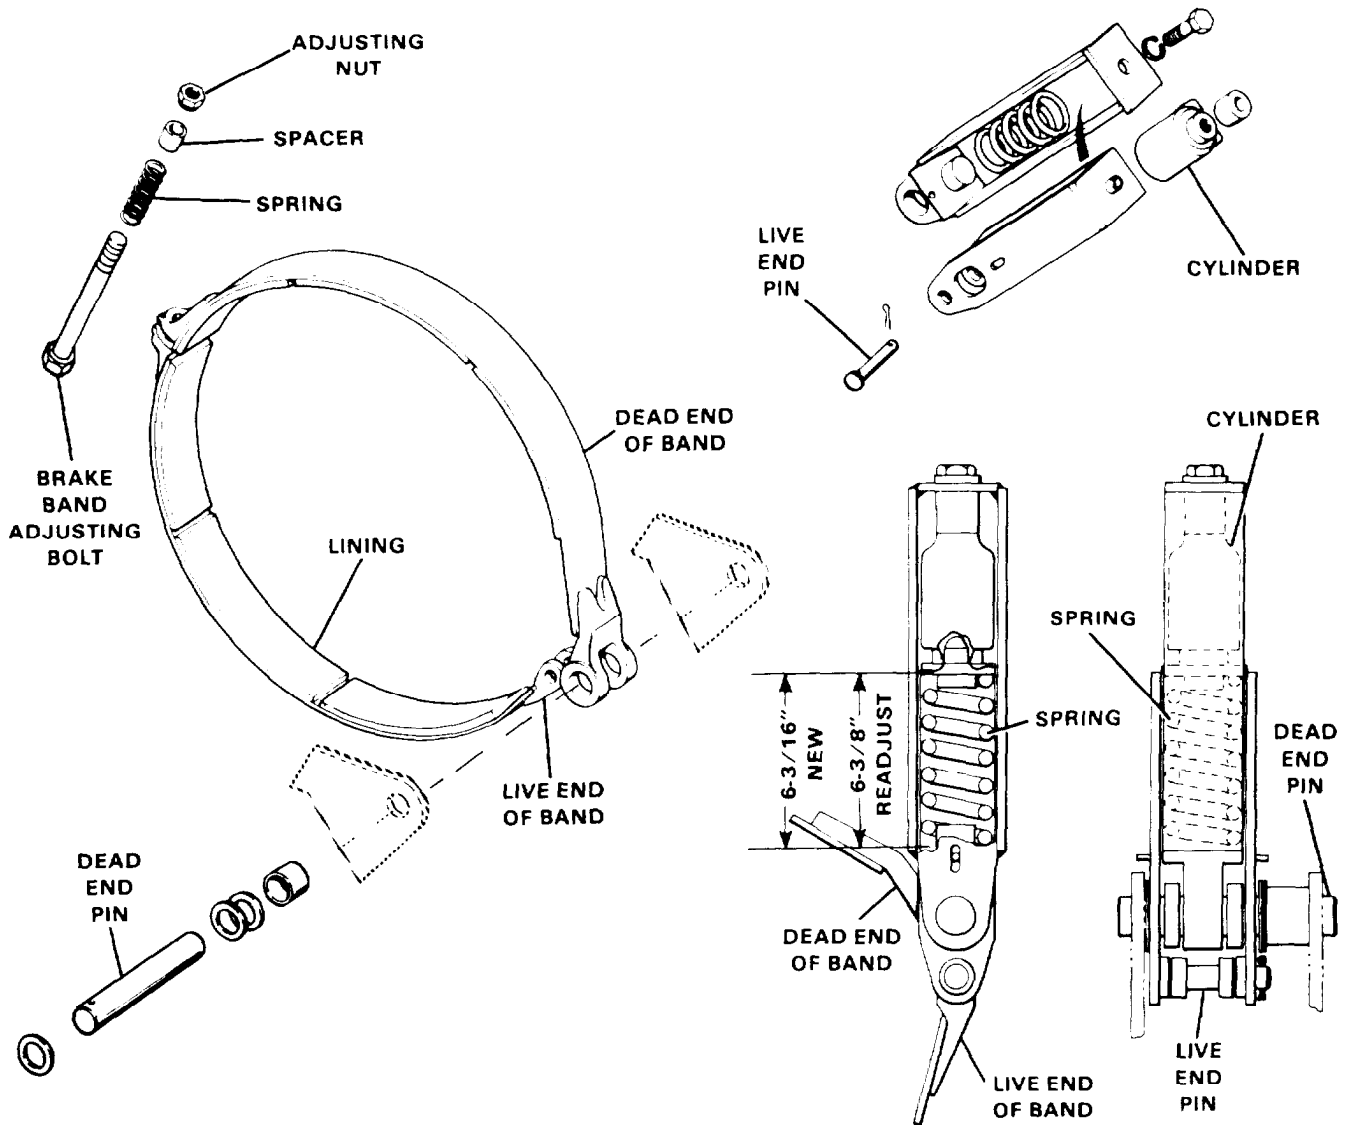

Figure 7C-6. Third Drum Brake (2100N464)
**INSTALLATION.** After relining the brake band, install the band halves as follows (see Figure 7C-6):